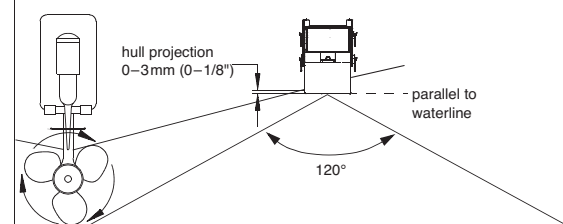
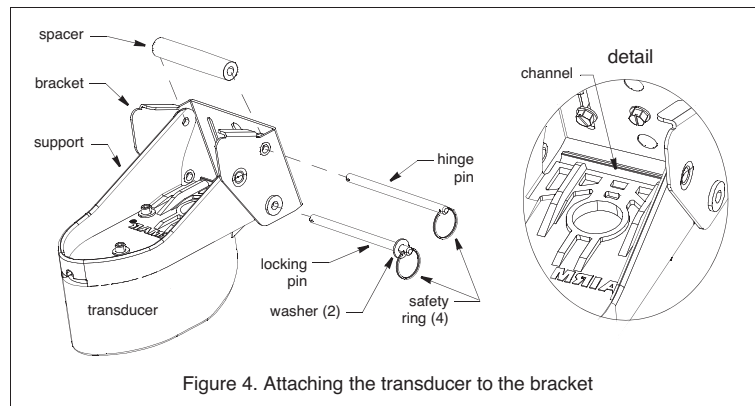

Figure 1. Mounting location on single drive boat
Figure 4. Attaching the transducer to the bracket
- Mounting the transducer on the side of the transom where the propeller blades are moving downward is preferred (Figure 1).
- **Single drive**—Mount a minimum of 15cm (6") beyond the swing radius of the propeller (Figure 1).
3. Attach a safety ring to one end of each pin (Figure 4).
1. At the selected mounting location, position the assembly so the transducer projects 3mm (1/8") below the bottom edge of the transom (Figure 1). Be sure any shim(s) is in place. (You may want to tape the shim(s) to the bracket temporarily.) With the transducer in the operational position and the bracket parallel to the waterline, mark the bottom corners of the bracket.
2. Remove the transducer assembly from the bracket by removing the locking pin and the hinge pin (Figure 4). Hold the bracket with any shim(s) in place against the transom at the marked location. Draw an "X" at 12mm (1/2") from the top and the bottom of each slot (Figure 6).
1. Apply marine sealant to the threads of four of the hex-washer-head screws to prevent water seepage into the transom. Being sure any shim(s) is in place, screw the bracket to the hull using a socket wrench (Figure 4). *Do not tighten the screws at this time.*
5. Using the vertical adjustment space in the bracket slots, slide the assembly up or down until the bottom inside corner of the transducer projections 0–3mm (0–1/8") below the bottom of the hull (Figure 1). When you are satisfied with the position of the transducer, tighten the four bracket screws. For clear access to the screws, remove the transducer assembly from the bracket (Figure 4). *When reattaching, be sure to include the spacer.*
- b. Move the transducer deeper into the water in increments of 3mm (1/8") (Figure 1).
3. Fasten the stabilizing screw into place with a socket wrench. For clear access to the screw, remove the transducer assembly from the bracket (Figure 4). *When reattaching the transducer, be sure to include the spacer.*